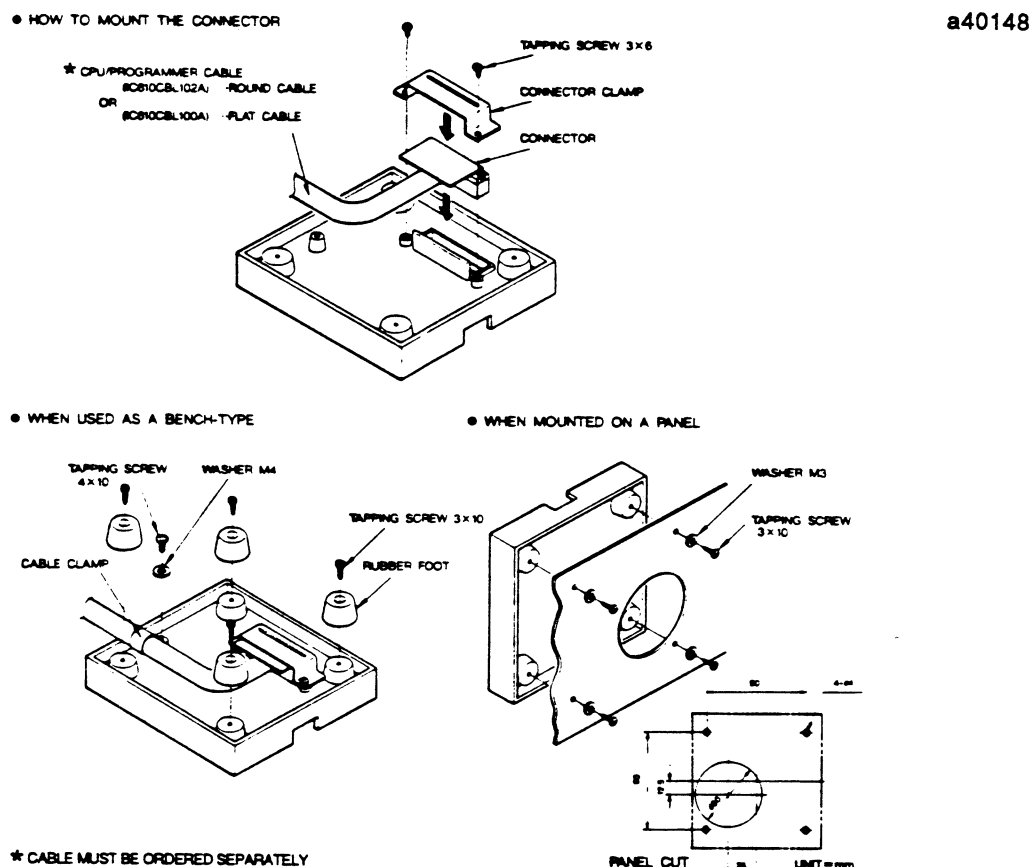

Figure 3-14. Programmer Mount Assembly
39. The Programmer Mount Assembly (catalog no. IC610PRG190) can be used when installing the hand-held programmer on the outside of a panel or console, or can be used as a table top stand for the programmer. Figure 3-14 shows how to install the mounting assembly. *The CPU/Programmer cable must be ordered separately.*